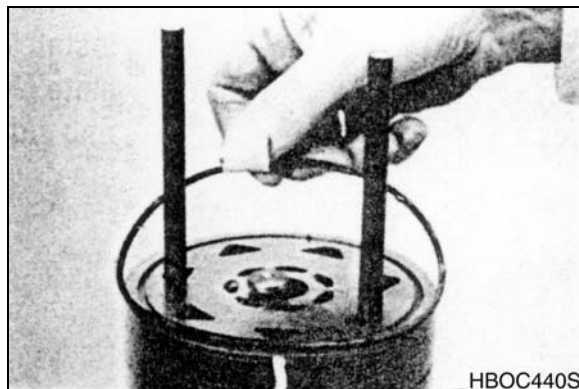

Figure 59
17. Apply grease to a new seal ring (4) and insert it in the seal ring groove exposed on the manifold. See Figure 59.